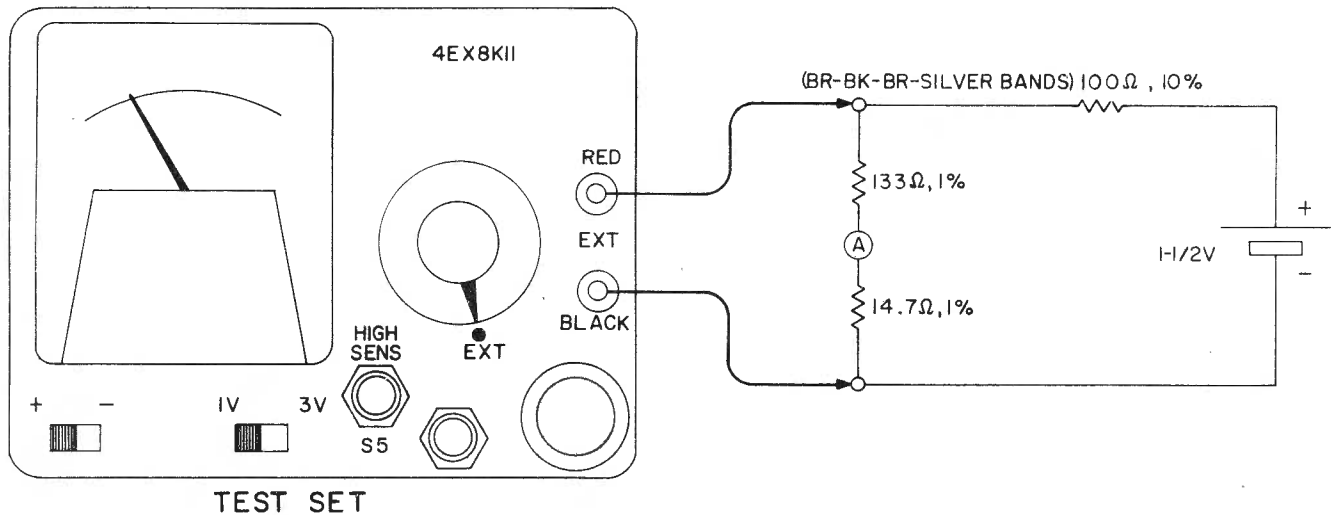

Figure 6 - Calibration Setup
3. Connect the three calibration resistors and a fresh "D" cell flashlight battery as shown in Figure 6.